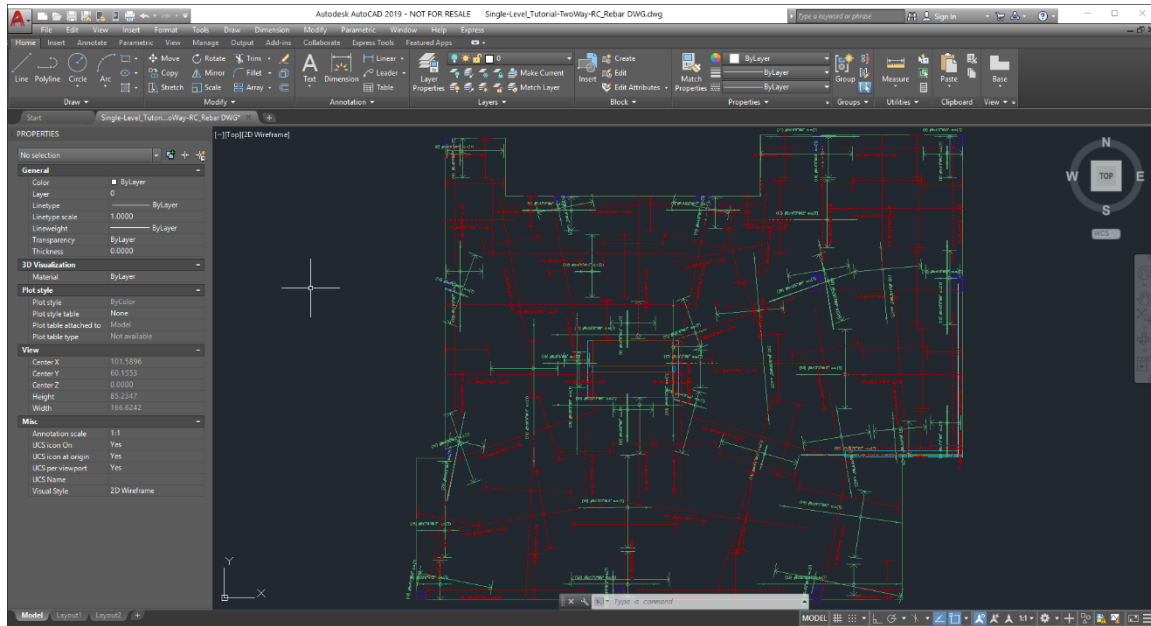

Figure 7-28
- Opening the exported drawing in your CAD software or DWG viewer. The user should have a CAD file that looks similar to the CAD file shown in **FIGURE 7-28**.